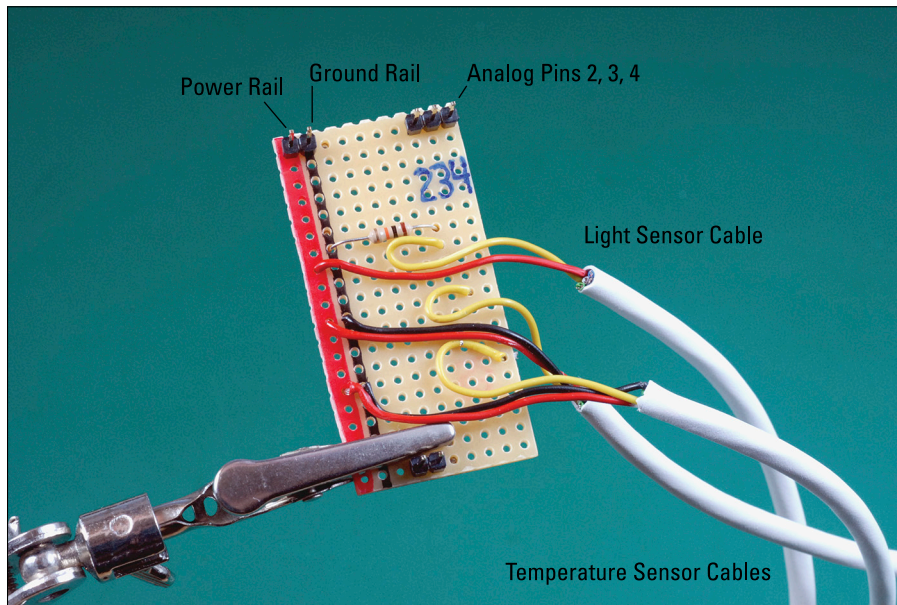

Figure 12-14:
It should look like the top cable in Figure 12-14.
10. Connect your temperature sensor cables below your light sensor cable, as shown in Figure 12-14.
12. Solder the signal wires to the columns for analog Pins 3 and 4, respectively. Check Figure 12-14 to make sure that you've soldered your connections correctly.